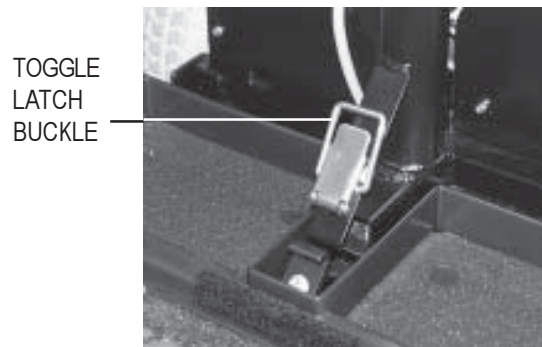

Figure 17A. Toggle Latch (Unlatched)
2. Position the toggle latch buckle over the top of the toggle latch. See figure 17A.